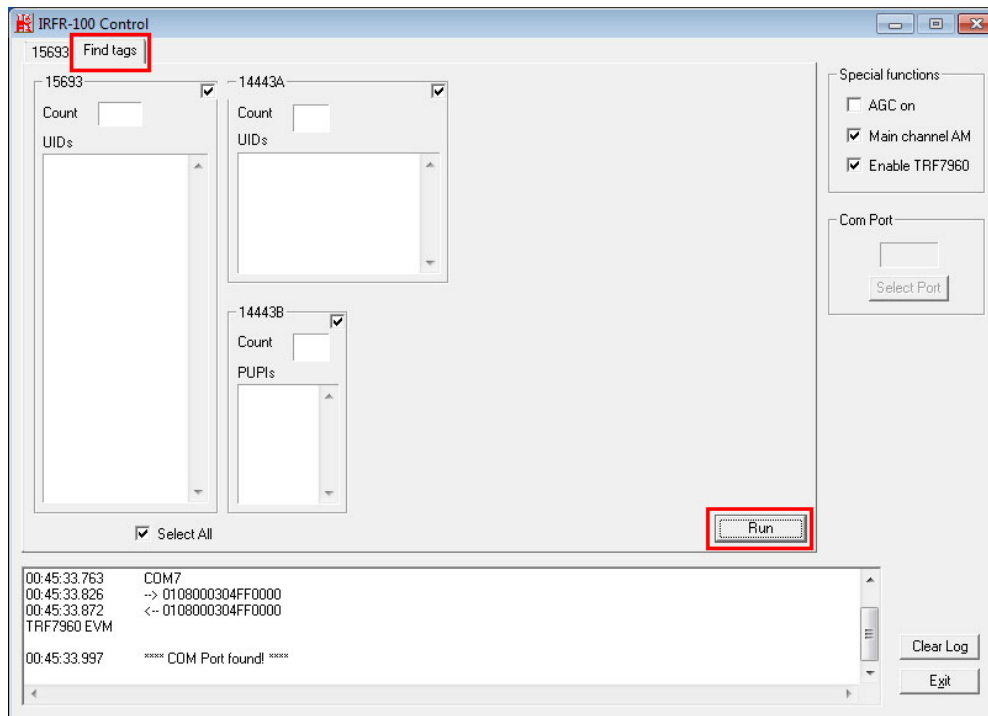

Figure 3-24: IRFR – Find Tags
Step 5: Select the **Find tags** tab and click the **Run** button to enable the RFID reader (Figure 3-24).